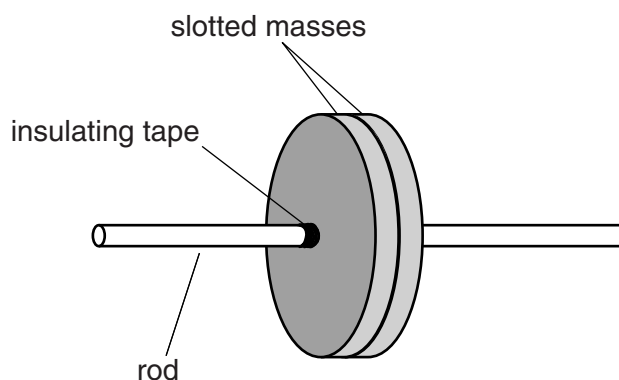

Fig. 2.1
- 1 Wind insulating tape around the middle of the rod so that the slotted masses are a tight fit when pushed onto the middle of the rod, as shown in Fig. 2.1. Leave the masses on the rod.